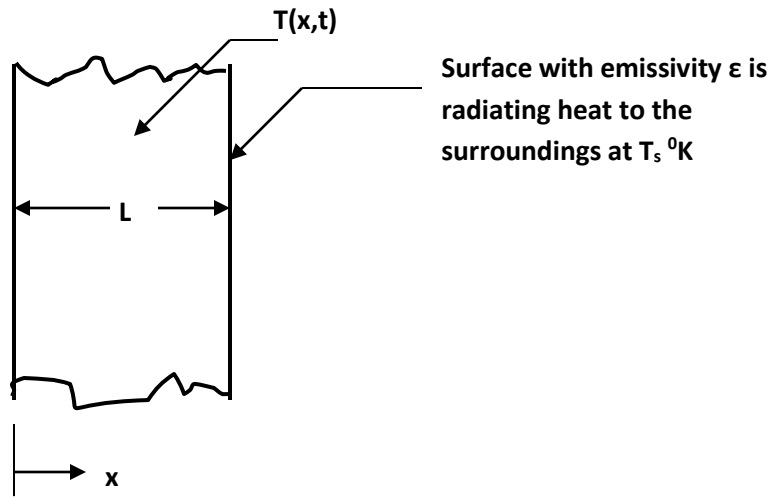

Fig. 2.10: Boundary surface at $x = L$ subjected to radiation heat transfer
2.4.4. Radiation Boundary Condition: Fig. 2.10 shows a plane wall whose surface at $x = L$ is having an emissivity ' ϵ ' and is radiating heat to the surroundings at a uniform temperature T_s . The mathematical expression for the boundary condition at $x = L$ can be written as follows: